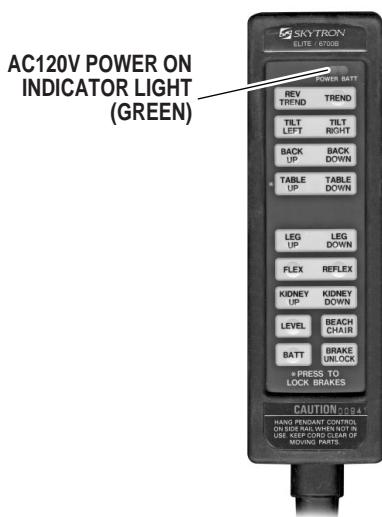

Figure 2-2. Pendant Control
The pendant control buttons and the green AC 120V, POWER indicator light located in the upper right corner of the pendant control will illuminate. See figure 2-2.
- a. Make sure the Battery Indicator and Main Power Switch indicator lights, on the electrical panel, are OFF. See figure 2-2. If the indicator lights are ON, turn AC120V operation OFF with the main power switch.